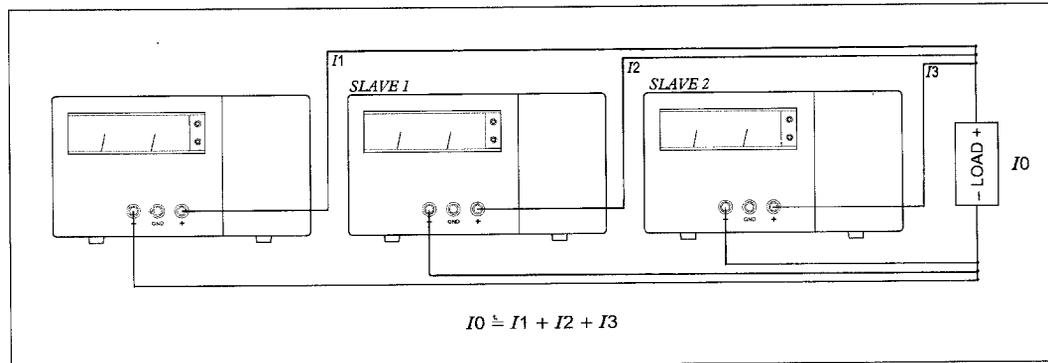

FIG. 6.4
4. Connect the output terminals of each of the units to the load as shown in FIG. 6.4 . For proper performance, use all cords of same length.